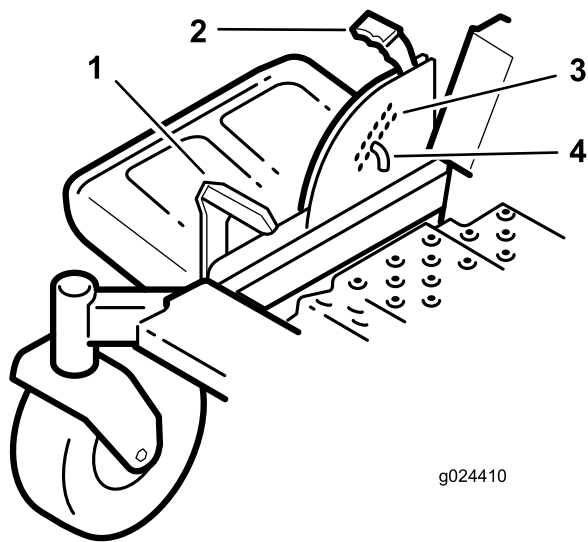

Figure 23
- Push on the deck lift pedal with your foot and raise the mower deck to the transport lock position (also the 114 mm (4-1/2 inch) cutting height position) (Figure 23).
- To adjust, remove the pin from the height-of-cut bracket (Figure 23).
- Select a hole in the height-of-cut system corresponding to the height-of-cut desired and insert the pin (Figure 23).